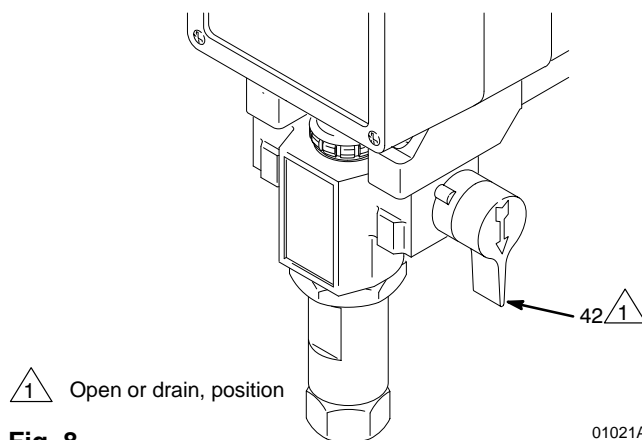

Fig. 8
1. **Open the pressure drain valve (42).** See Fig. 8.
3. **Put the suction hose (32) into the paint.** If you are pumping from a pail, push the drain hose (33) down below the top of the pail to avoid splashing paint when the drain valve is opened.